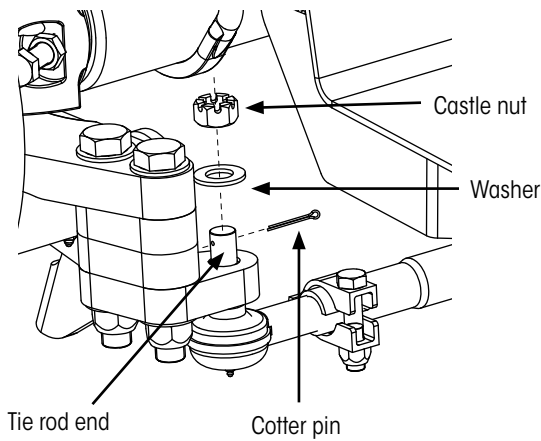

Figure 12: Remove tie rod fasteners
1. **Remove** the cotter pin and castle nut on the tie rod end to be replaced (Figure 12). Remove from both ends if both tie rod ends or the entire tie rod assembly is to be replaced.